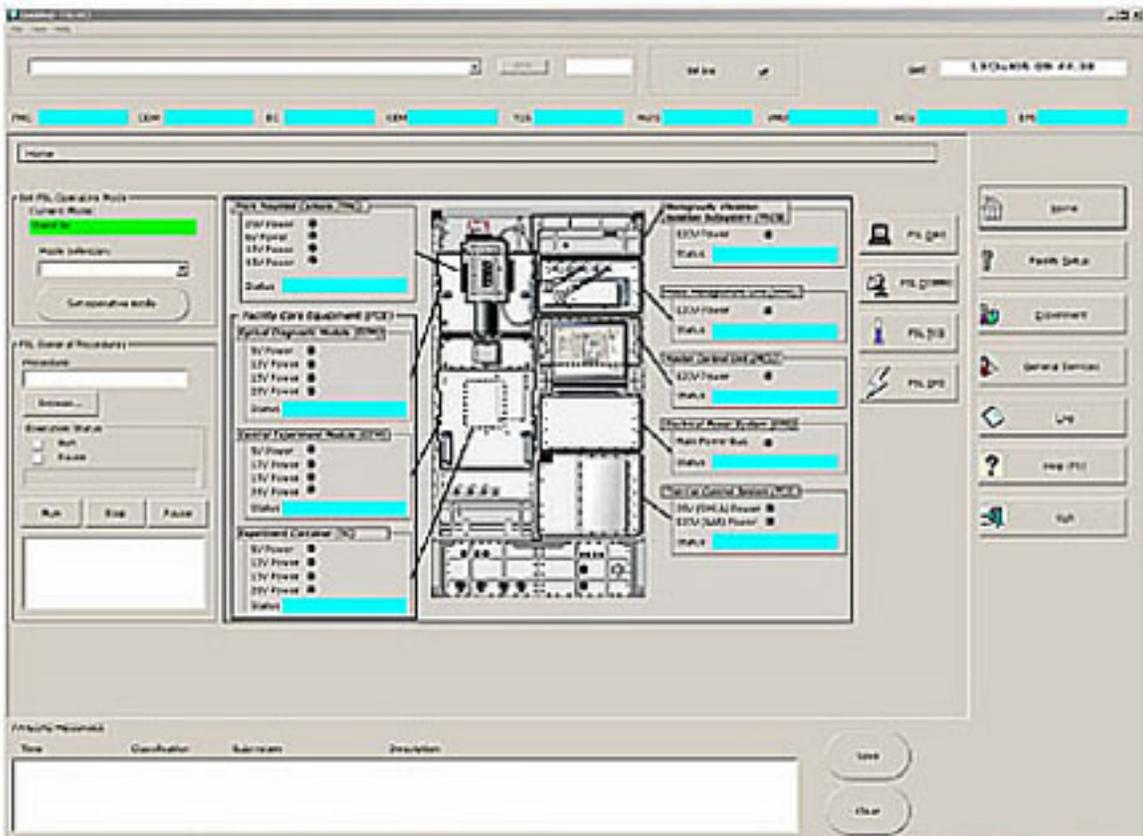

Figure 9. FSL Home Display
- Verify the Home window – displayed (Refer to Figure 9)